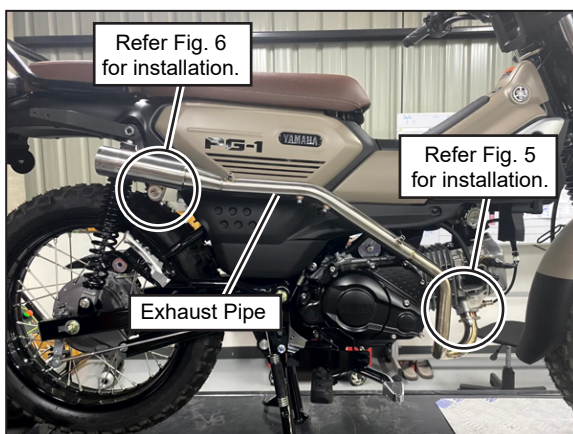

FIG. 4
- 5) Replace stock gasket at exhaust port of engine with new one. Then, mount Exhaust Pipe with stock nuts. Tighten nuts by hand only at this stage. (See Fig. 4 , 5).